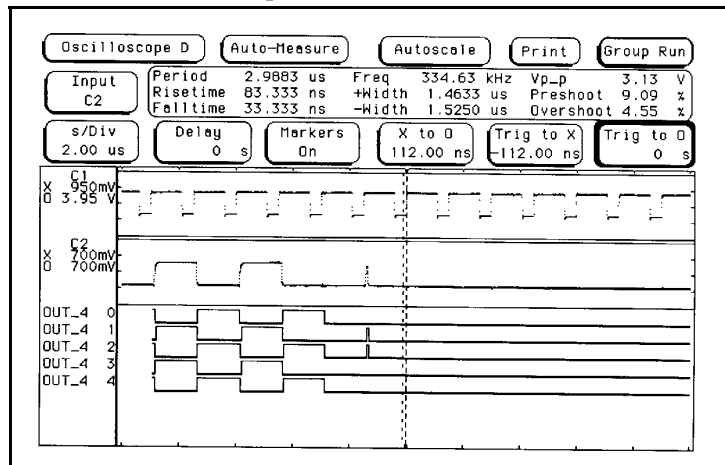

Figure 12-19. Displaying Multiple Module Data on One Screen.
8. Touch **Done** and the **Waveform Selection** pop-up will disappear, returning you to the waveform display. As shown in figure 12-19, the five HP 16510A timing analyzer channels (**OUT_4**) are now displayed with the HP 16530A/31A oscilloscope channels C1 and C2 on the **Oscilloscope D Auto-Measure** menu.